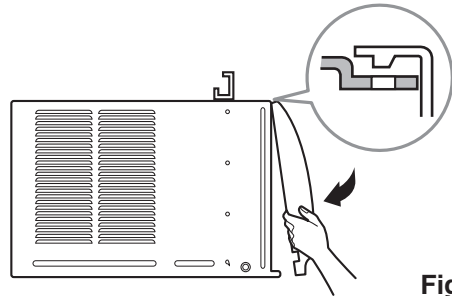

Fig. 10
13. Attach the front grille to the cabinet by inserting the tabs on the grille into the tabs on the front of the cabinet. Push the grille in until it snaps into place. (Fig. 10)